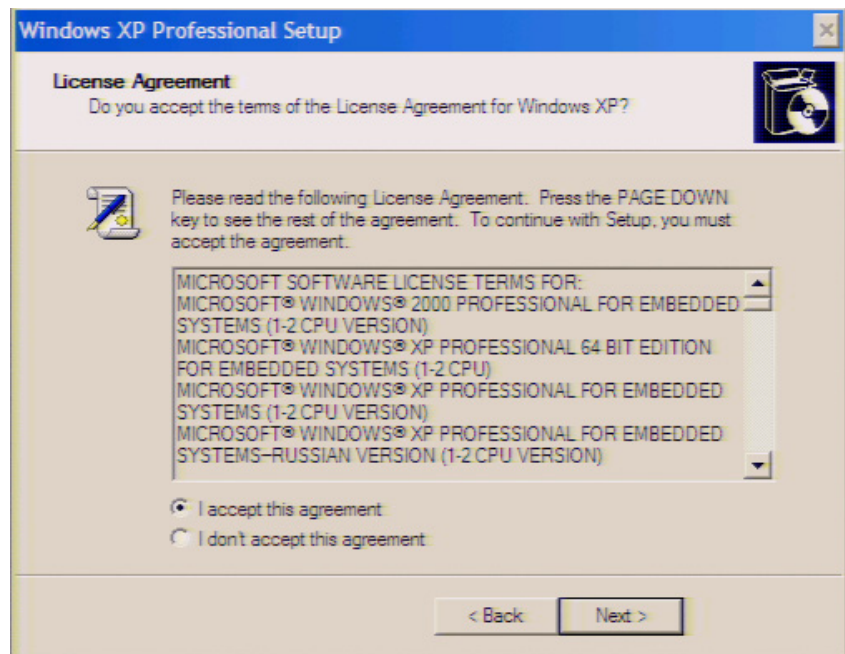

Figure 9 License agreement dialog box
Step 5. In the License agreement dialog box, select the **I accept this agreement** box and click the **Next >** button. **Figure 9** shows the license agreement dialog box.